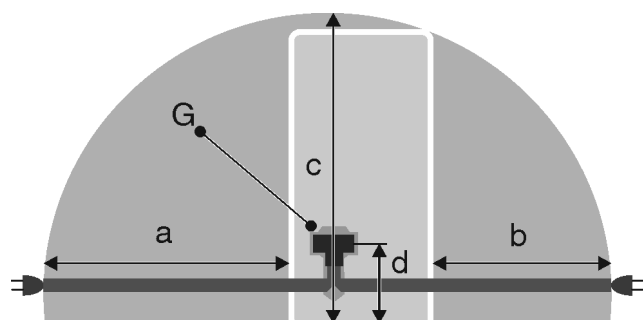

Fig. 35\*
- The socket is not located behind the appliance but in areas a or b Fig. 35 (a, b, c).
- ▶ Insert the appliance plug Fig. 35 (G) into the back of the appliance. Ensure that they latch into place.